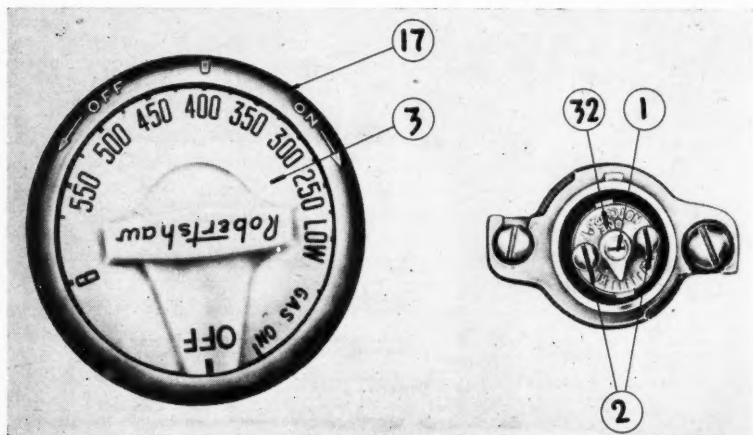

Fig. 19.
ture. First, place your oven thermometer in the center of the oven and then light oven burner with temperature dial (3), pictured in Fig. 19, turned to 400°. Wait approximately 10 minutes and take a reading. The oven door should be open for as short a time as possible. A flashlight is helpful in reading the thermometer. Wait five minutes and take second reading. Continue to take readings at five-minute intervals until two consecutive readings agree with each other within five degrees. This indicates the oven has reached a stable temperature. The final reading should agree with temperature dial setting (400°) within 10°. If the variation is more than 10°, you may wish to recalibrate, as follows: